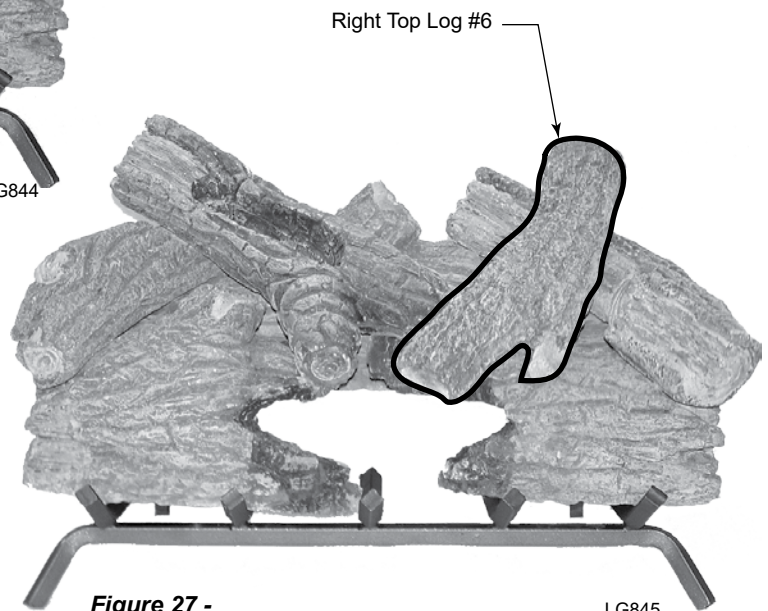

Figure 27 -
8. Place right top log #6 as shown. *Figure 27*